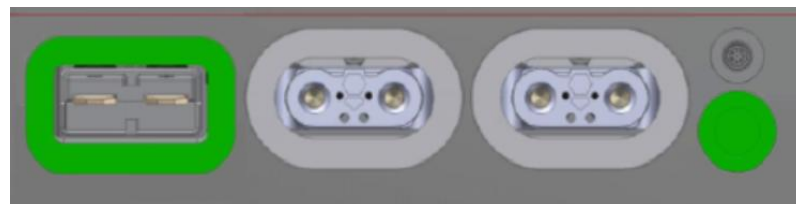

Figure 25: Circular LED and discharge port are illuminated, battery ON is ready for use.
3. If the discharge port is illuminated, the battery is ready for use (Figure 25).
2. If the discharge port is illuminated, the battery is ready for use (Figure 25)